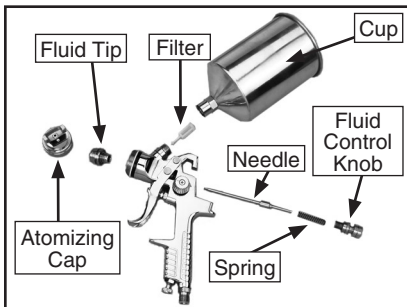

Figure 13. Disassembly for cleaning.
5. Unscrew the atomizing cap with your fingers and the fluid tip with the service wrench. The fully disassembled gun should look like **Figure 13**.